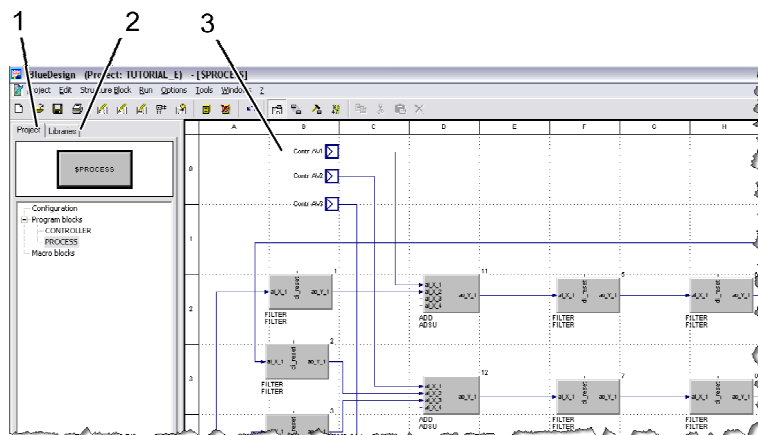

Fig. 113: Example: Edit mode
- Edit mode:** Edit mode is the standard mode for *BlueDesign*. The essential editing of a project is done in this mode. You use edit mode to edit and connect blocks, delete blocks, change their order or work with macro blocks. The blocks and their connections are edited on the workspace (Fig. 113/3). A tree structure of the project elements is displayed on the "Project" tab (Fig. 113/1). The "Libraries" tab (Fig. 113/2) contains a hierarchical list of the blocks that can be used in the project.